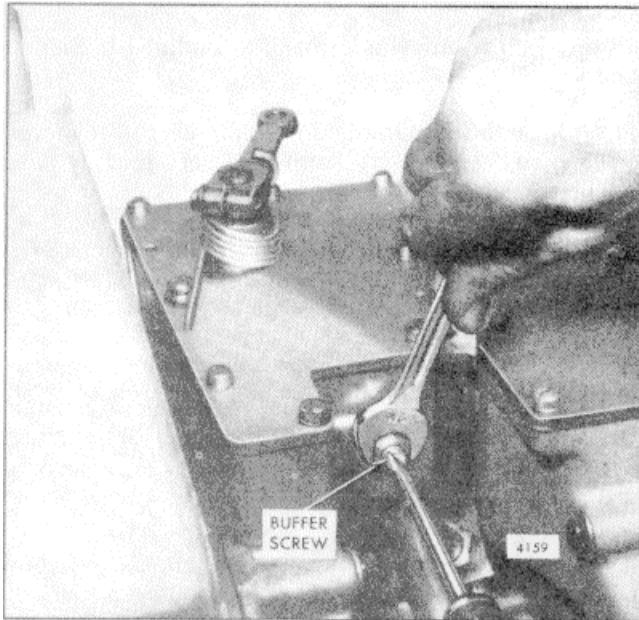

Fig. 13. - Adjusting Buffer Screw
1. With the engine running at normal operating temperature, turn the buffer screw IN so that it contacts the differential lever as lightly as possible and still eliminates engine roll (Fig. 13).